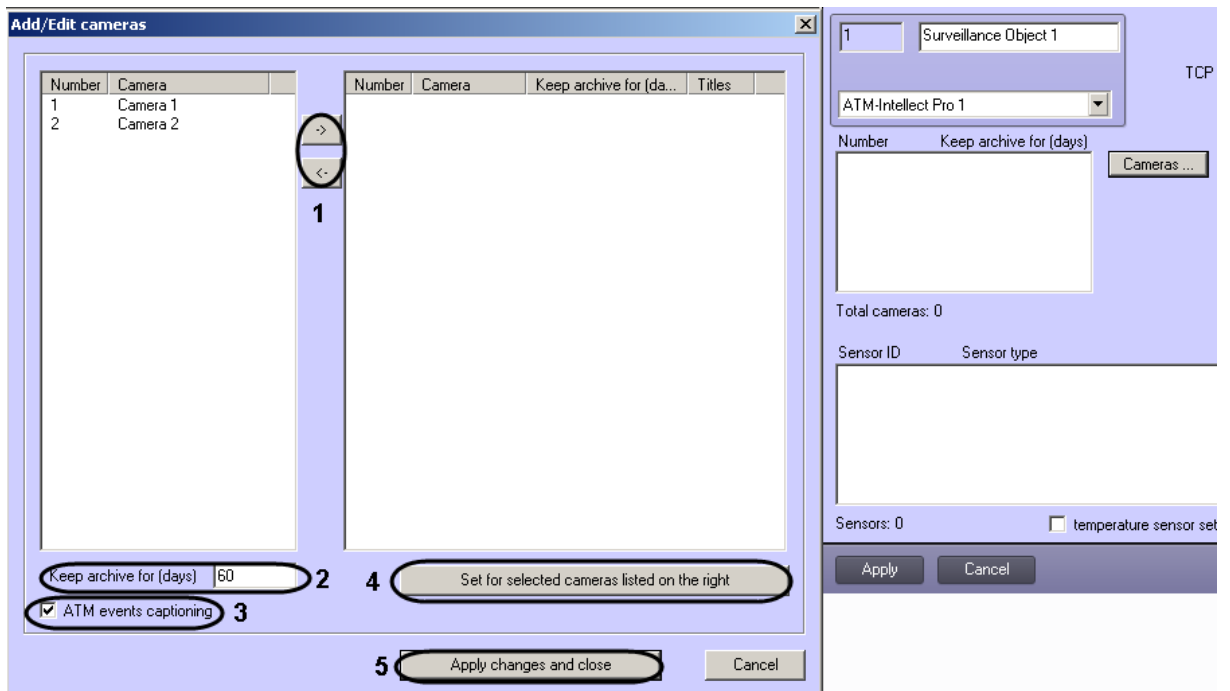

Fig. 8.4—15 Selecting cameras
3. Move cameras from the list on the left to the list on the right with  and  buttons (Fig. 8.4—15, 1).